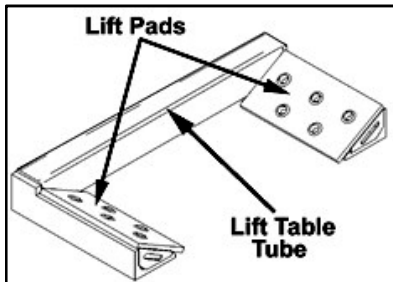

Fig. 5: Lift table tube and pads
5. Push the lift pad under the tire until the lift table tube contacts the tire (see Fig. 5 for identification).